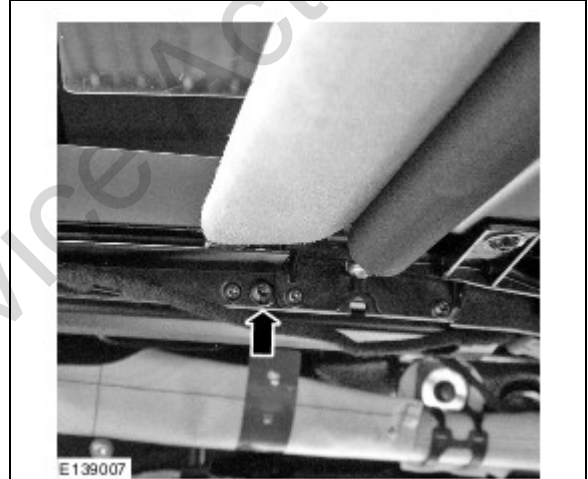

Figure 18
23. Install the Torx bolt and nut. (Figure 18)